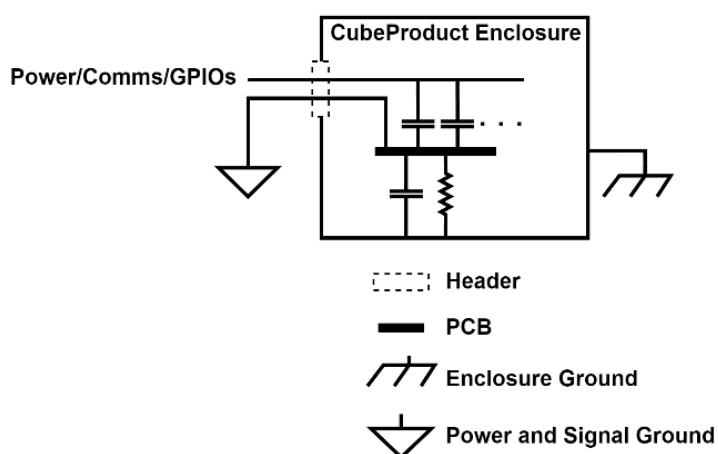

Figure 14: Generic Grounding Diagram
The enclosure and mechanical parts of CubeMag are connected to the power and signal ground through a filter designed to minimise EMI, as illustrated in Figure 14. The enclosure of CubeMag can be grounded by the user if desired.
- All pins that are externally exposed through headers are filtered by way of 100 pF decoupling capacitor to power and signal ground as shown in Figure 14.